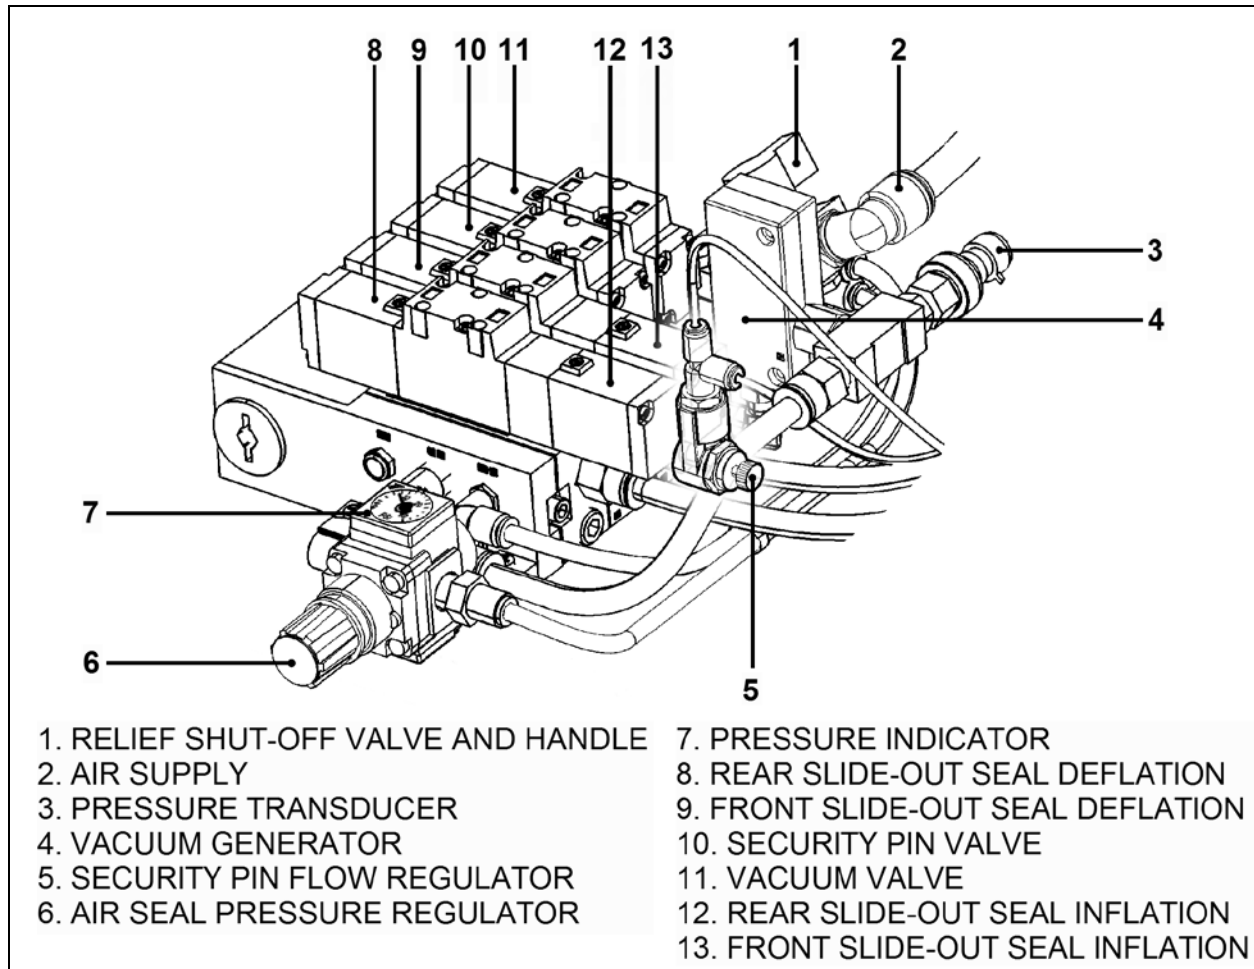

FIGURE 32: PNEUMATIC COMPONENT PANEL
The supply line for the pneumatic component panel (Item 2, Figure 32) is connected to the air pressure inlet valve on the pneumatic panel in the front service compartment.
Make sure the inflatable seal is deflated when manually moving the slide-out during service maintenance. Deflate inflatable seals completely by turning the relief shut-off valve handle clockwise (see Figure 32).
1. Fully deflate the air seal by turning the shut-off valve clockwise (Item 1, Figure 32). Make sure the pressure indicator is at "0 psi".